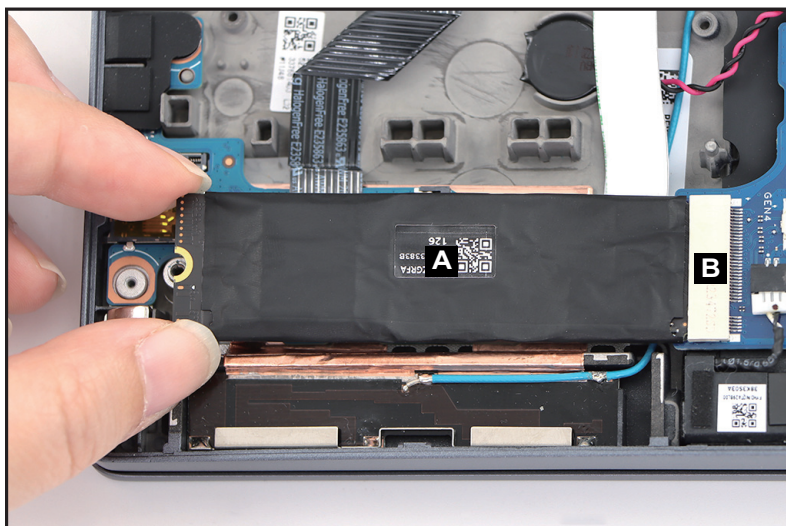

Figure 1-35. SSD Module Removal
2. Disconnect the SSD module (A) from the mainboard connector (B) (Figure 1-35). Then remove the SSD module.